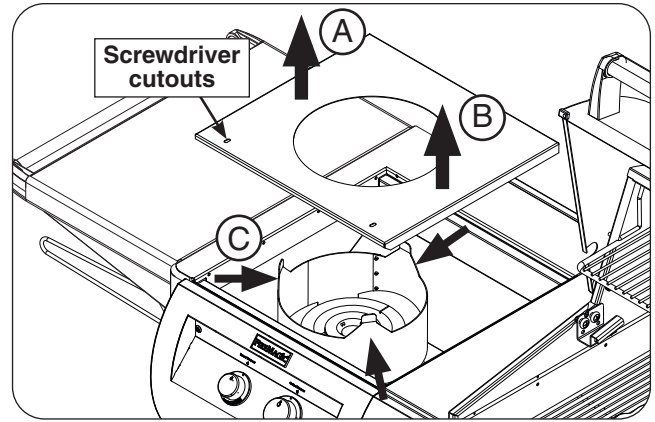

Fig. 43-1 Interior protection plate removal
2. Lift up the interior protection plate from the left side, then lift up from the right side (see Fig. 43-1, A and B).
3. While lifting the plate upward, flex the collimator inward to completely free the protection plate (see Fig. 43-1, C).